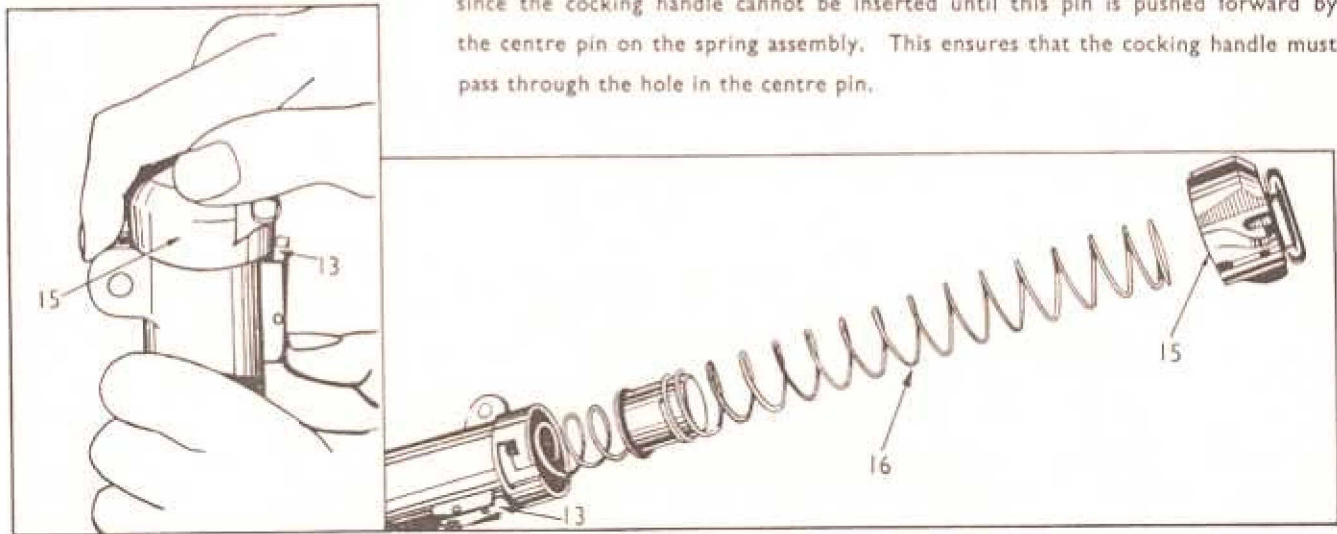

Fig. 10. To remove return spring and bolt
- 8.0 ELEMENTARY STRIPPING AND ASSEMBLING** (Figs. 10 and 11). Before stripping, ensure that the weapon is not loaded and remove sling if fitted. Set change lever to A, place butt in the folded position and bolt forward.